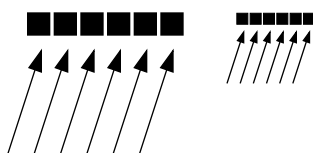

Figure 2 - Two possible zoom settings which would produce two different screen rulings.
- Before output, a screen ruling is chosen. The multiple beams of the laser are focused with a zoom lens so that they will expose the proper screen ruling. (See Figure 2.) The multiple beam is then used to ‘paint’ halftone dots, usually in two passes where one half is painted on the first pass, and